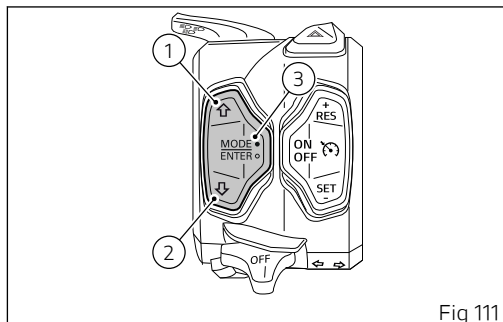

Fig 111
- Use buttons (1) and (2) to select item ABS (B, Fig 111) and press the ENTER button (3).